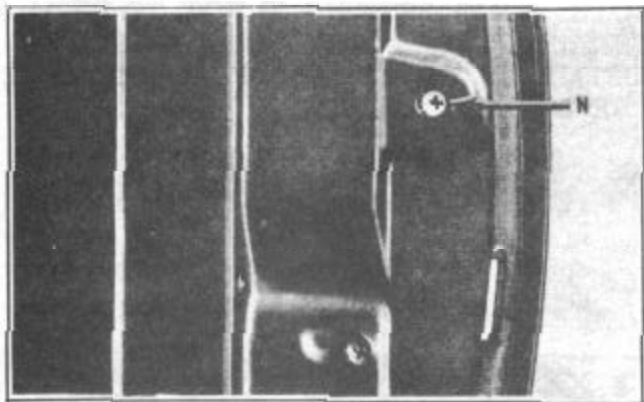

FIGURE 179
or out by moving screw (N), Figure 179, attaching the channel to the lock edge of door.